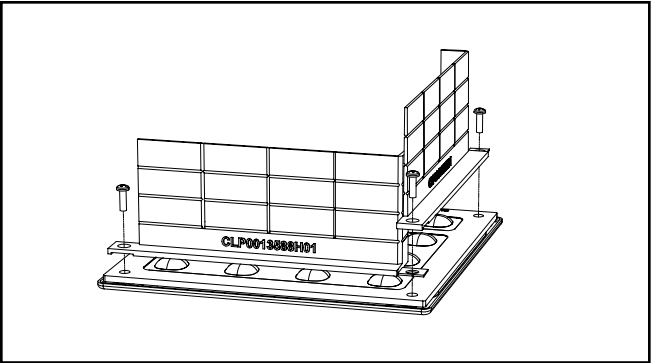

Figure 3.
- Where multiple shields are needed on the same light square, ensure the tabs overlap correctly for a secure fit. (FIG 3)